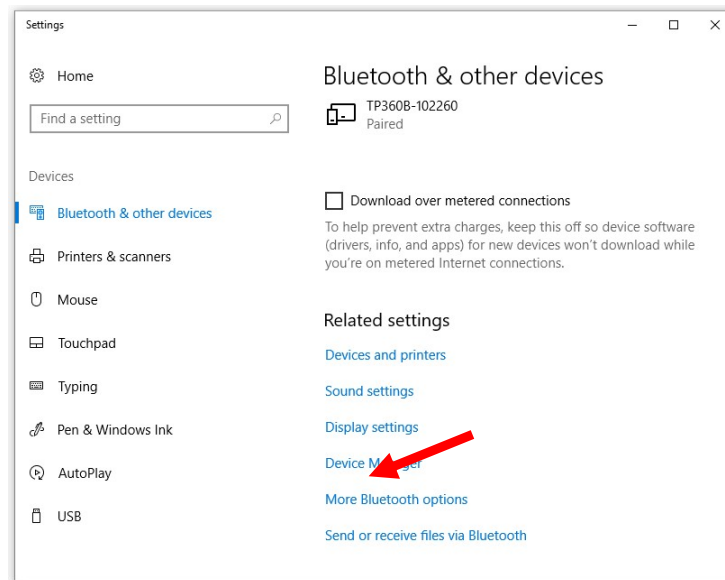

Figure 8-3: Select More Bluetooth options from Bluetooth & other devices Dialogue Box
- Within the *Bluetooth & other devices* dialogue box select *More Bluetooth options* under '*Related settings*'. Refer to Figure 8-3.